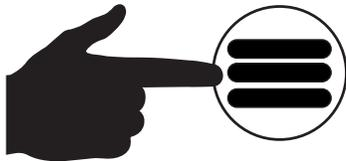

Figure 158. Main Menu Button
6. Press the **Main Menu** button (Figure 158).